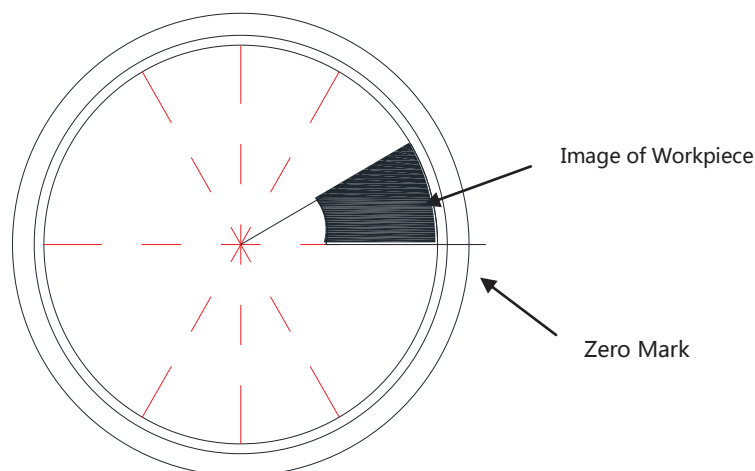

Fig 10 Measurement Angular
6.2.3.2 Adjust the measured angle vertex to the center of the cross of the projection screen (Fig 10)